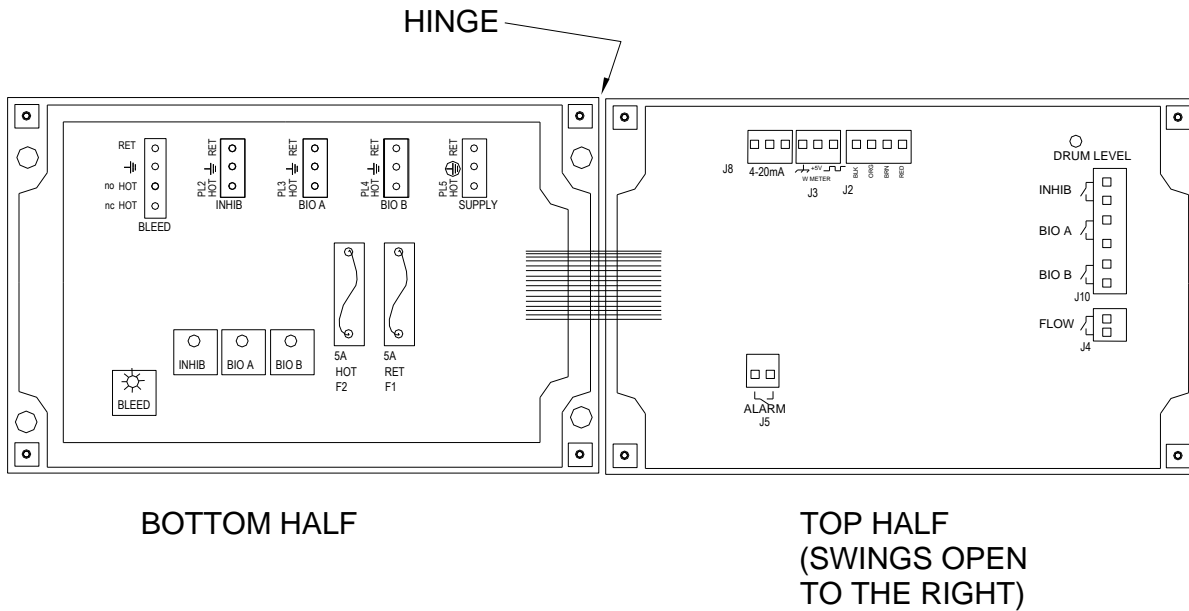

Fig. 2
Loosen the four (4) screws on the front of the controller and carefully swing the top of the case to the right (*Fig. 2*).